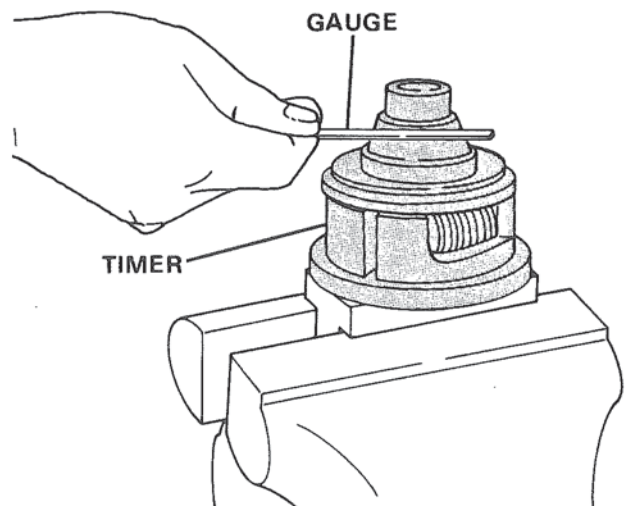

Figure 57. Checking Thrust Clearance.
- A. Check clearance with feeler gauge. Figure 57.